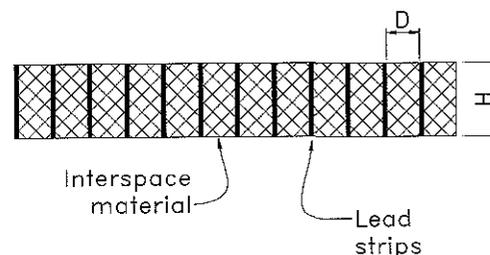

Fig E-40. Formation of an X-ray grid
- Grid ratio. This is the ratio of the height of the lead strips (H), and the distance between them (D). $R = H/D$, and is expressed as a ratio, for example, 8 : 1.
- (See Fig E-40)